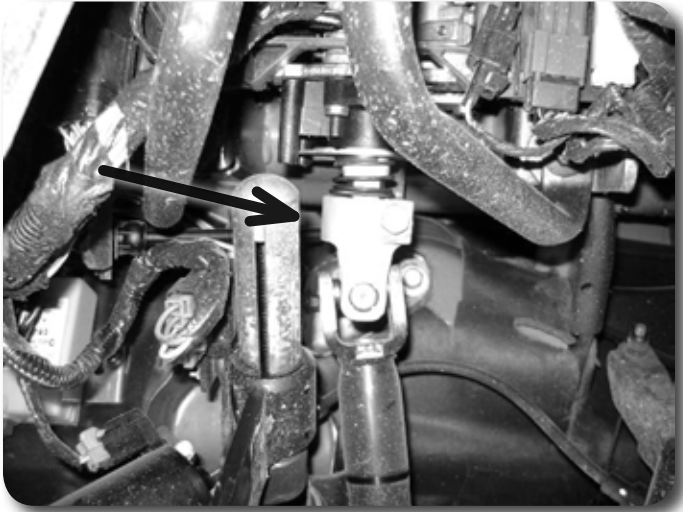

Figure 1
3. Located under the dash, remove the bolt that connects the steering shaft universal joint to the steering column and separate the steering shaft from the steering column. **Figure 1** Save bolt.